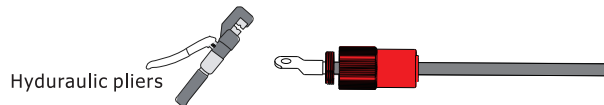

Figure 4.2-3
**Step2:** Crimp the metal terminal, as shown in Pic 3.5, as shown in Figure 4.2-3.